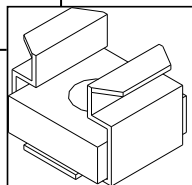

Figure 23: Square Bolt.
There are two (2) leveling legs and they can be found inside the manual bag. Each leveling leg consists of a long bolt, a hex nut, a washer, and a square bolt with clip (see Figure 23). For installation of the leveling legs the unit should be on its back and a $\frac{1}{2}$ " wrench is required for adjustments.